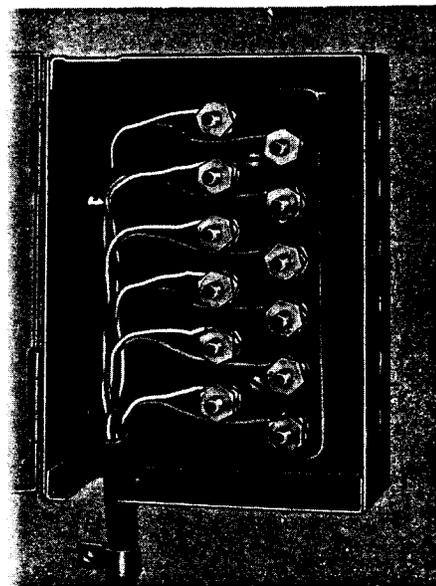

Fig. 12—Wiring of HS-6 Cable Terminal Box
4.07 The proper knockout should be removed from the HS-6 cable terminal box before the cable is placed and terminated. Figure 12 shows the termination of cable. Inside wire is terminated directly on connecting block without slack inside terminal box.